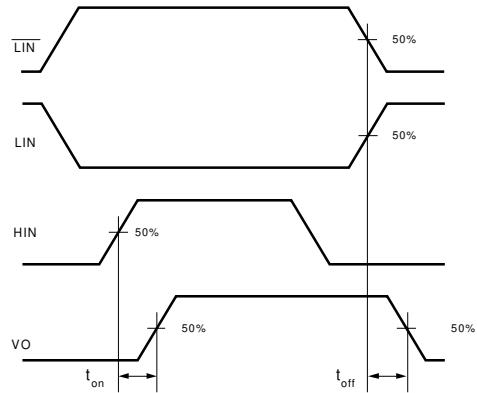

Figure 2. Switching Time Waveform Definitions
$V_{BIAS}$  ( $V_{CC}, V_{BS}$ ) = 15V and  $T_A = 25^\circ C$  unless otherwise specified. Switching time waveform definitions are shown in figure 2. Refer to IC data sheets (IR2106 and IR2108) for further characteristics.
**Note 2:** Switching times as specified and illustrated in figure 2 are referenced to the VO output voltage. This is shown as  $V_O$  in figure 2.